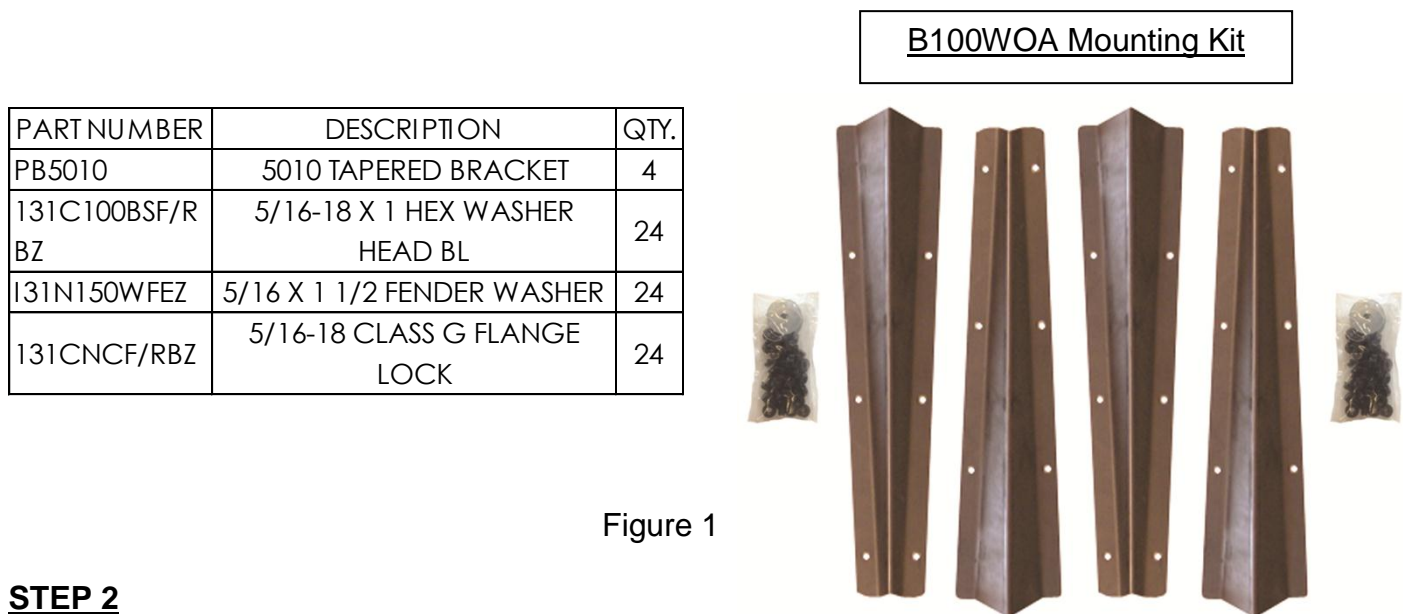

Figure 1
- B. Compare the parts with the hardware kit B100WOA as shown in Figure 1.